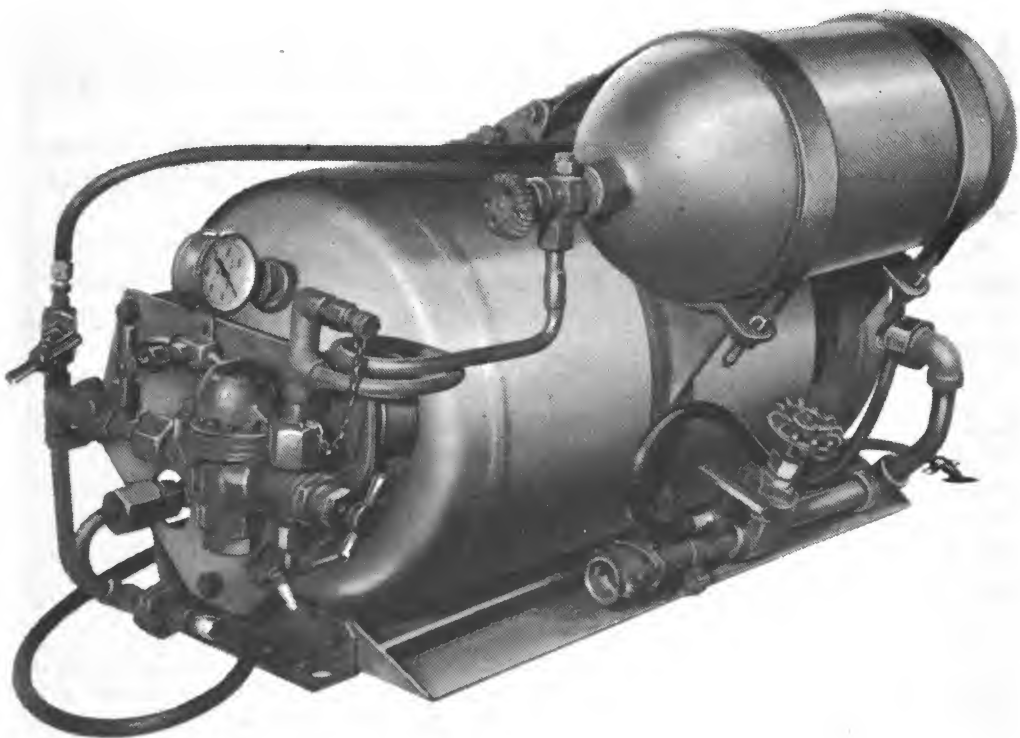

Fig. 2. Sponson fuel group (tank unit, fuel, mechanized flame thrower, M3, assembly).
a. Flame thrower. The M3-4-E6R3 mechanized flame thrower (fig. 1) consists of three main groups: the sponson fuel group (tank unit, fuel, mechanized flame thrower, M3, assembly) (fig. 2), the transmis-